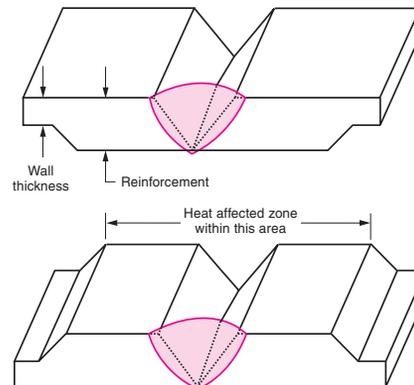

Figure 6-35. The joint thickness and the filler material tensile strength is equivalent to the strength of the base material in this design.
- Welds cannot be thermally treated after welding because of configuration or size. Material is added to the joint thickness, as shown in Figure 6-35, and the weld is made restricting the heat flow into the thinner metal. This type of joint will achieve the full mechanical values of the base material.